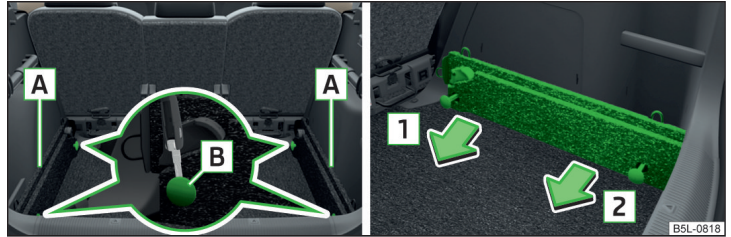

Fig. 113 Slacken check points/remove carrier rails
- Undo the securing points **B** » Fig. 113 on the carrier rails using the vehicle key or a flat screwdriver.
- Press the two securing points **B** » Fig. 113 on each carrier rail to the stop.